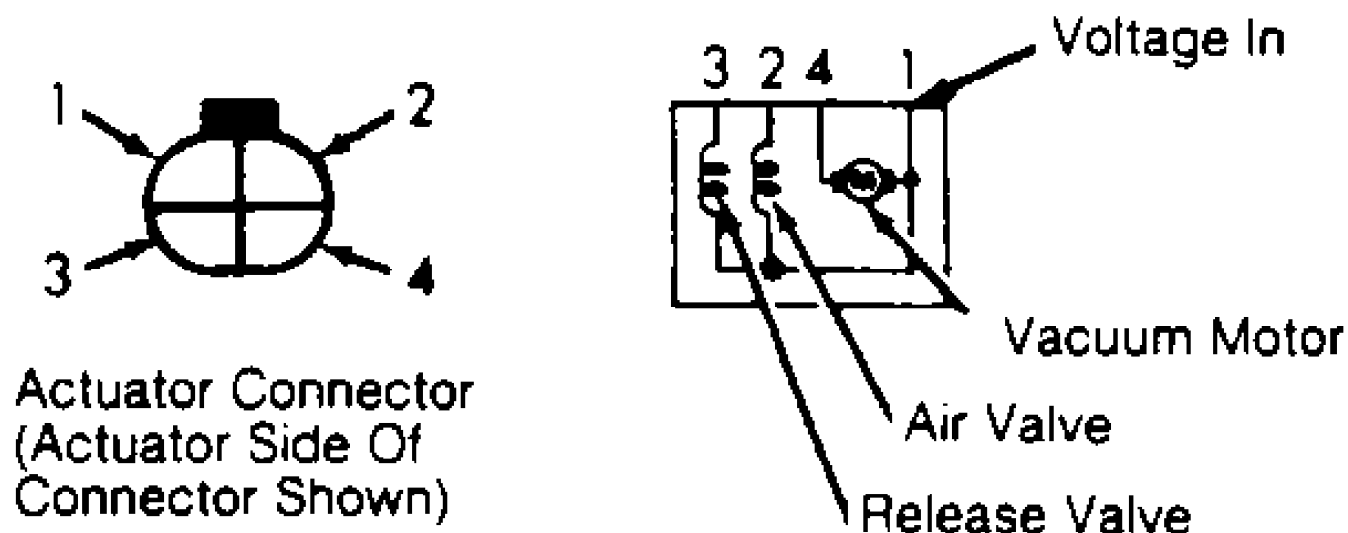

Fig. 7: Identifying Actuator Connector Terminals (Maxima, Stanza, 240SX & 300ZX)
1) Turn ignition off. Disconnect actuator harness connector from main harness. Connect battery positive lead to actuator connector terminal No. 1 and negative lead to terminal No. 4. See Fig. 7. If vacuum motor does not operate, replace actuator. If vacuum motor operates, go to step 2).